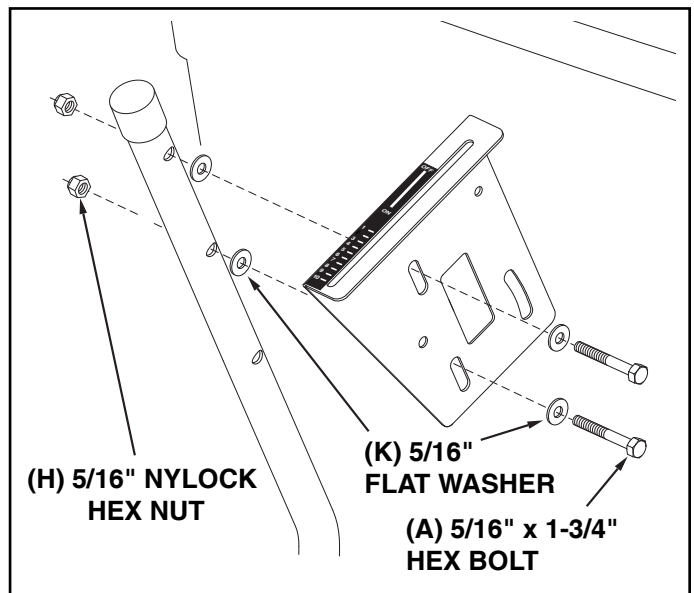

FIGURE 7
17. Assemble the flow control mounting bracket to the flow control mounting tube using two 5/16" x 1-3/4" hex bolts (A), four 5/16" flat washers (K) and two 5/16" nylock hex nuts (H). **DO NOT TIGHTEN YET**. See figure 7.